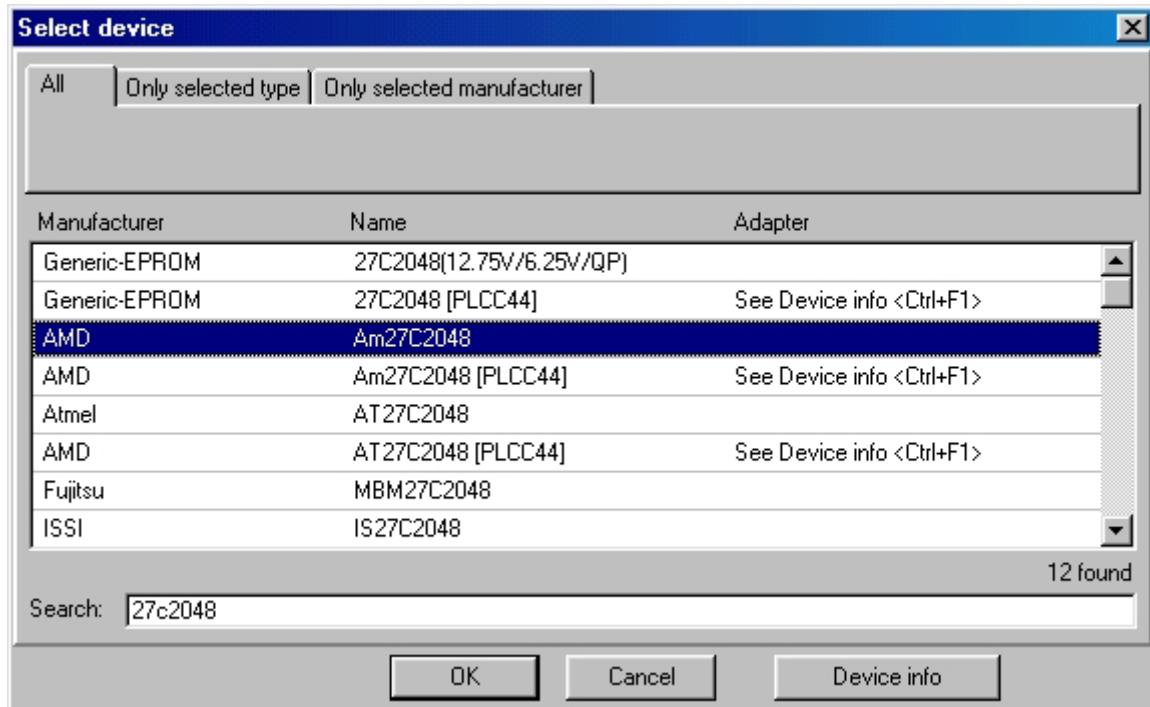

FIGURE 12: DEVICE REQUESTER
- Select the device You want to program, either through the Device>Select menu or the keyboard shortcut <Alt+F5> (press key <F5> while keeping Alt key pressed). A requester like in figure 12 appears: